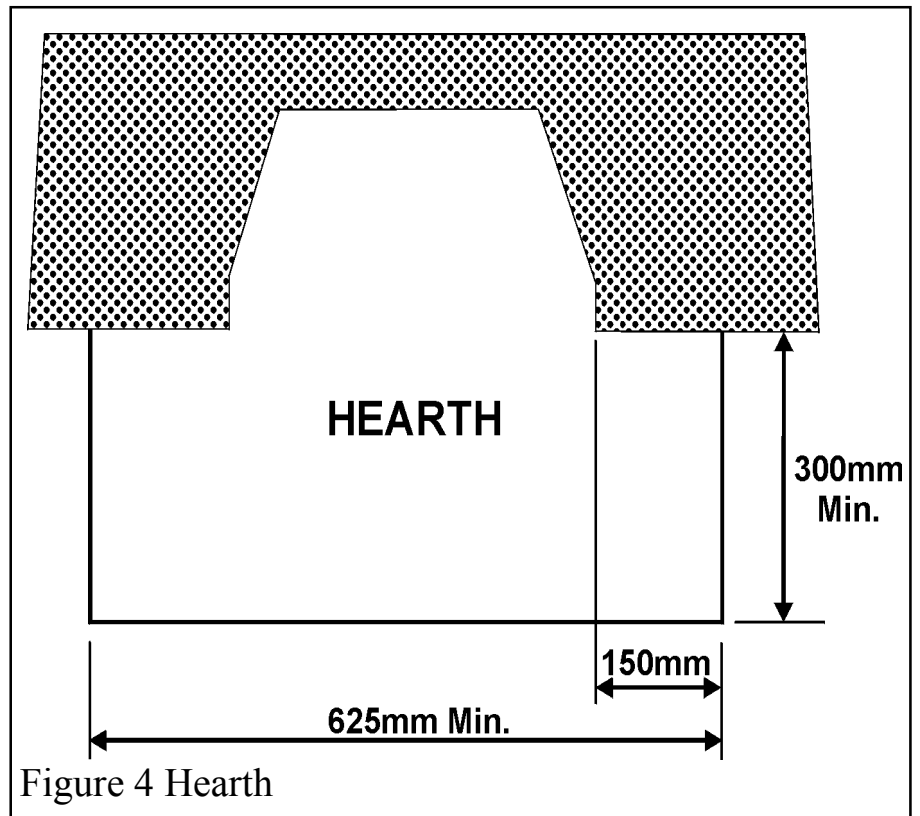

Figure 4 Hearth
2.16 The appliance must be mounted on a non-combustible hearth in accordance with Figure 4. The hearth material must have a minimum thickness of 12.5mm (1/2"). The periphery of the hearth (or fender) should be at least 50mm above floor level to discourage the placing of carpets or rugs over it.